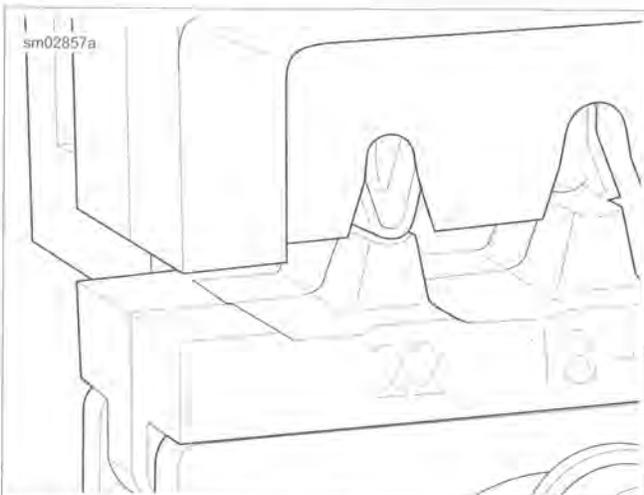

Figure A-56. Crimp Tails in Vertical Alignment between Punch and Die
- See Figure A-56. Ratchet the handles together until the crimp tails are held in vertical alignment between the punch and the die.